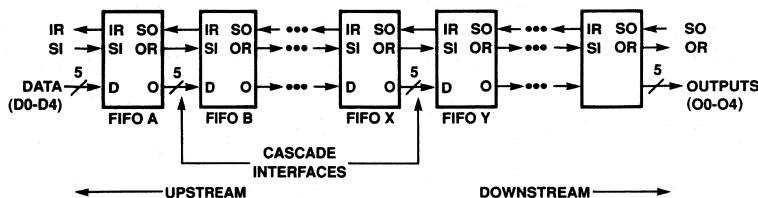

Figure 2. A Cascaded Buffer
If a deeper buffer size is required, two or more FIFOs may be cascaded, as shown in Figure 2.
Monolithic Memories' shallow FIFOs are *fallthrough* devices, that is, the first word shifted into an empty part automatically "falls through" the buffer and it becomes visible at the outputs. Its presence is indicated by the rising edge of OR. The following sequence describes this fallthrough action as a word is shifted into FIFO A (see Figure 2):
Consider a cascade interface between FIFOs X and Y of Figure 2. The OR of X goes HIGH, then is quickly reset once a valid shift out is detected. The duration of this OR pulse, termed t_{OPH} , must be long enough to be used by the SI of the downstream FIFO (Y). Specifically,